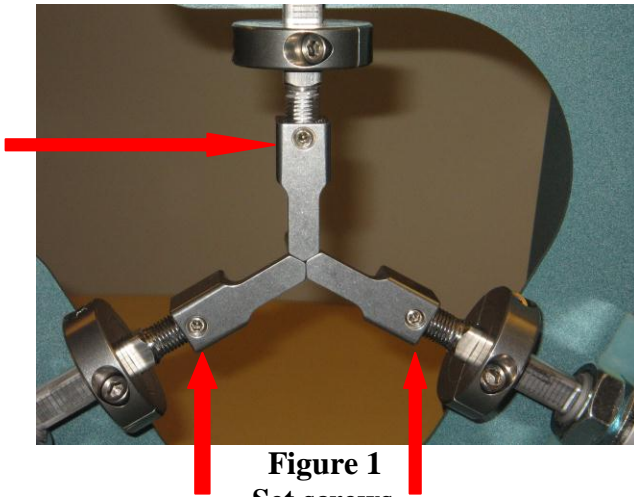

Figure 1
- Break loose the set screws on all three jaws using a 1/8" hex wrench. (**Figure 1**)
- Once aligned tighten all 3 set screws in the jaws. (**Figure 1**)
- Remove all three set screws on the jaws using a 1/8" hex wrench. (**Figure 1**)
- Ensure that the jaws are aligned properly, as shown in **Figure 1 & 2**. Tighten the set screws on each jaw after you have the jaws properly aligned. (**Figure 2**)